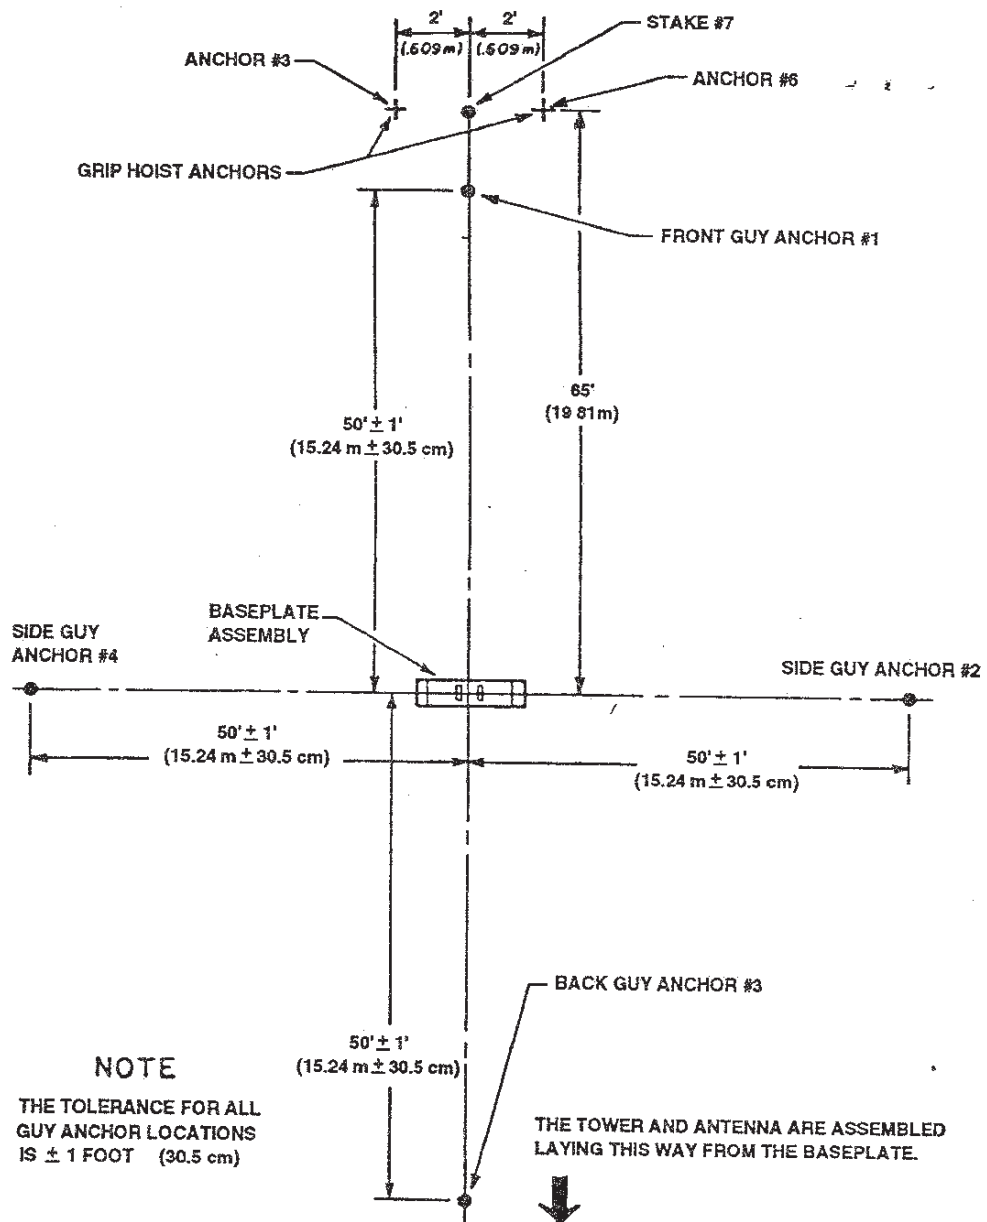
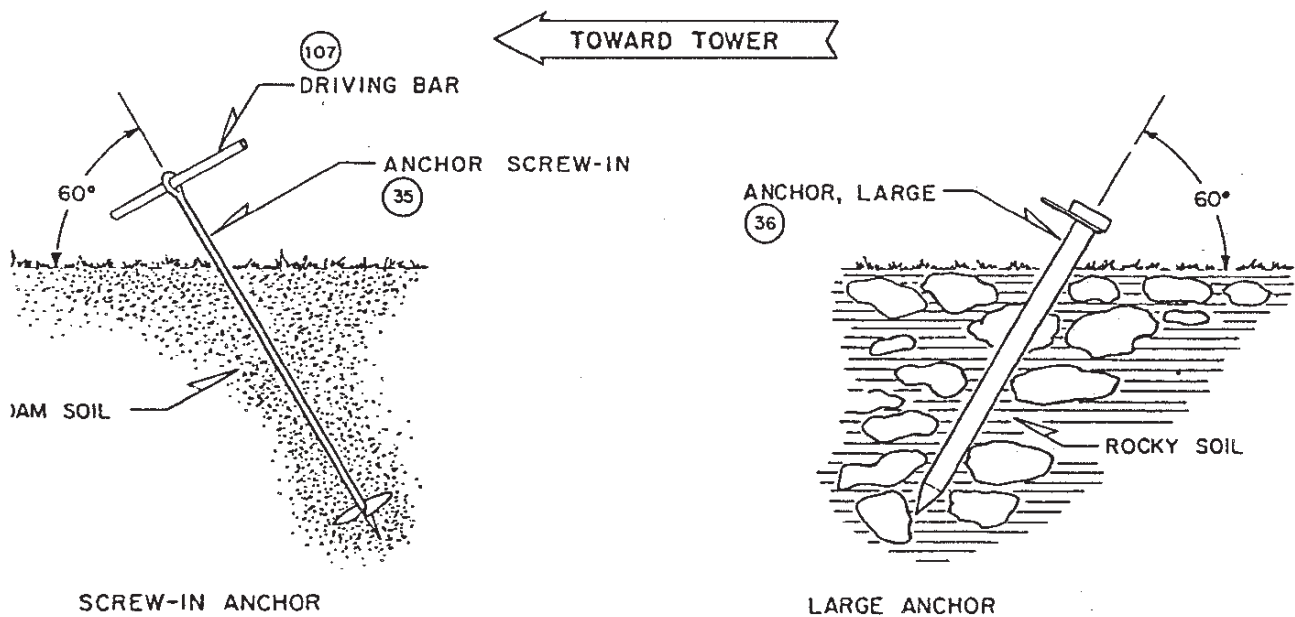

Figure 2-6
Figure 2-8
- b. Locate the four guy anchors, 50 feet \pm 1 foot (15.24 m \pm 30 cm) from the center of the base plate, at 90° intervals around the base plate. Refer to Figures 2-6 and 2-7 for aid in locating these guy anchors. Use the rotator rope assembly for aid in laying out the 50 foot dimension.
- c. Measure out 65' (19.81 m) toward guy anchor #1 from the center of the base plate. Mark this point (stake #7). Locate the two erection hoist anchors, #5 and #6, 2 feet (.60 m) on each side of this stake as shown in Figure 2-6. Refer to Table 2-4 to select the proper guy anchor for the soil conditions which exist at the site. Large stake anchors, and single-plate helix screw-in type anchors are provided with the system. Figure 2-8 shows the proper installation of the anchors provided.